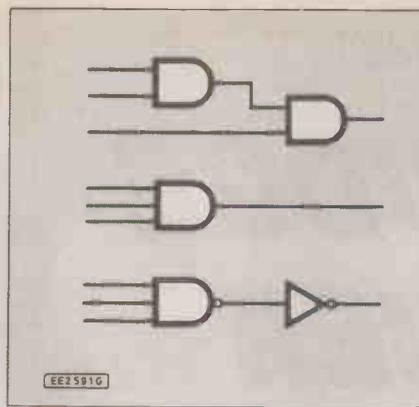

Fig. 7.9. All these alternatives would give the same logic output (a three-input AND gate).
**T** Yes, or an extra two-input one for each side. These arrangements are equivalent (Fig. 7.9).